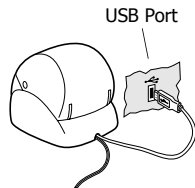

Figure 6
- 3 When prompted during the software installation and while the printer is turned on, plug the USB cable into an available USB port on your computer. See Figure 6.